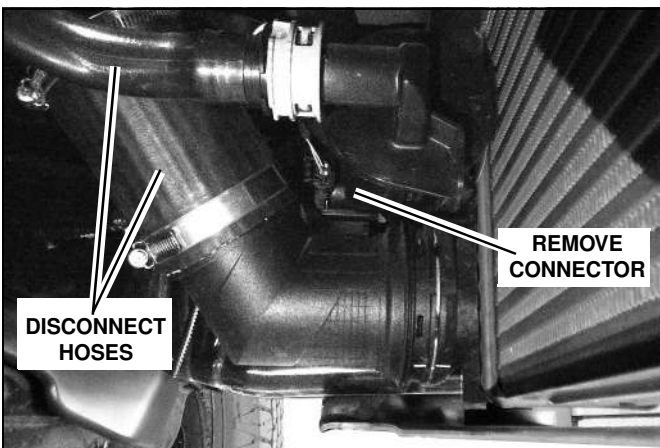

Figure 21
10. Disconnect the 2 hoses on the driver side of the intercooler and the 2 pin connector. (See Figure 21)